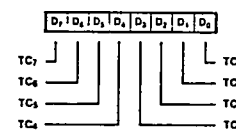

Figure 6. Time Constant Word
**Time Constant Programming.** Before a channel can start counting it must receive a time constant word from the CPU. During programming or reprogramming, a channel control word in which bit 2 is set must precede the time constant word to indicate that the next word is a time constant. The time constant word can be any value from 1 to 256 (Figure 6). Note that 0016 is interpreted as 256.